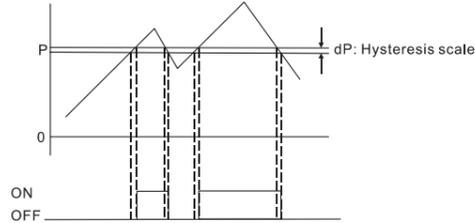

Figure 1: Output in Easy Mode
- Easy Mode: Set up pressure P. When the pressure measured is bigger than (P + dP), the output will be ON. When the pressure measured is smaller than P, the output will be OFF. (See Figure 1: Output in Easy Mode)